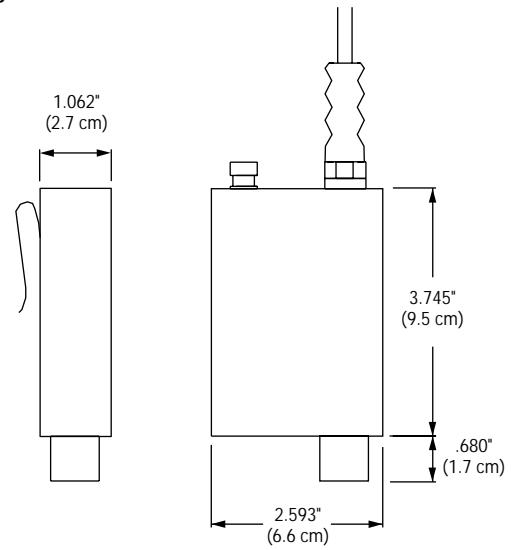

Fig. 5
Please see Fig. 5. As supplied from the factory, the microphone is ready to mount on the right earpiece of the Sony headphone. If you want to do this, slip the mount over the yoke above the right earpiece and tighten the screws. You may want to route the mic cable along the headband and along the headphone's coiled cable.
The CM-311AHS can be adjusted to fit any user. Please refer to Fig. 5 and follow these steps:
3. You can move the microphone toward and away from your mouth, and also left, right, up and down. Position the mic in front of your mouth, with lips touching the foam windscreen (Fig. 5). This is necessary because the mic cancels sounds that are not close to it. To prevent boom bounce, the foam pop filter should press firmly against